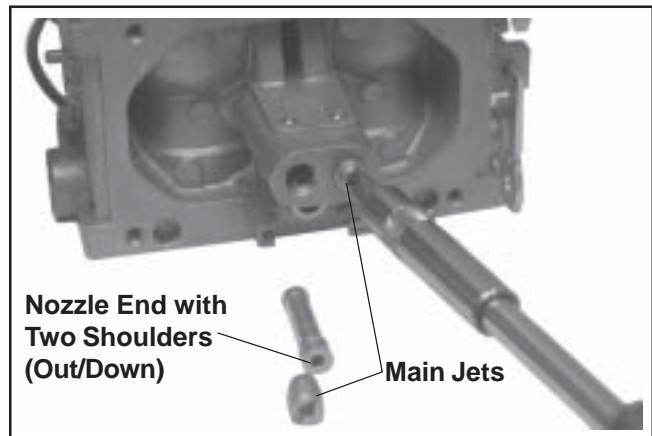

Figure 5-27. Installing Main Nozzles and Main Jets.
8. Install the two main nozzles into the towers of the carburetor body. The end of the main nozzles with the two raised shoulders should be out/down (adjacent to the main jets). Make sure the nozzles are completely bottomed. Carefully install the main jets into the towers of the carburetor body on the appropriate side, as identified when removal was performed. See Figure 5-27.